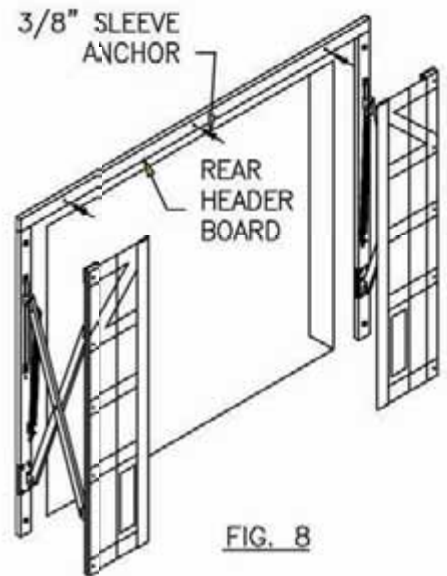

FIG. 8
- Position rear header board into place (figure 8).
- Insert 3/8" sleeve anchors and tighten with 1/2" socket wrench (fig. 8).